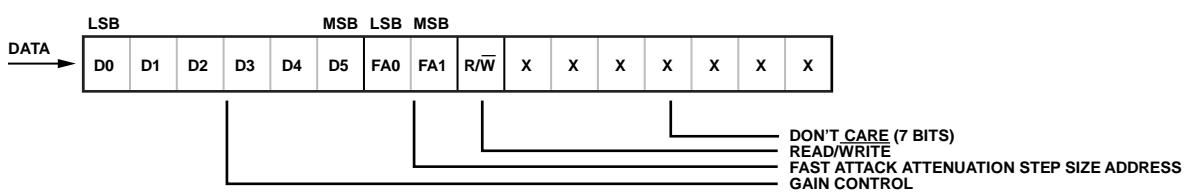

Figure 53. 16-Bit SPI Register
The SPI uses three pins (SDIO, SCLK, and CSA or CSB). The SPI data register consists of two bytes: six gain control bits (D0 to D5), two attenuation step size address bits (FA0 and FA1), one read/write bit (R/W), and seven don't care bits (X), as shown in Figure 53.